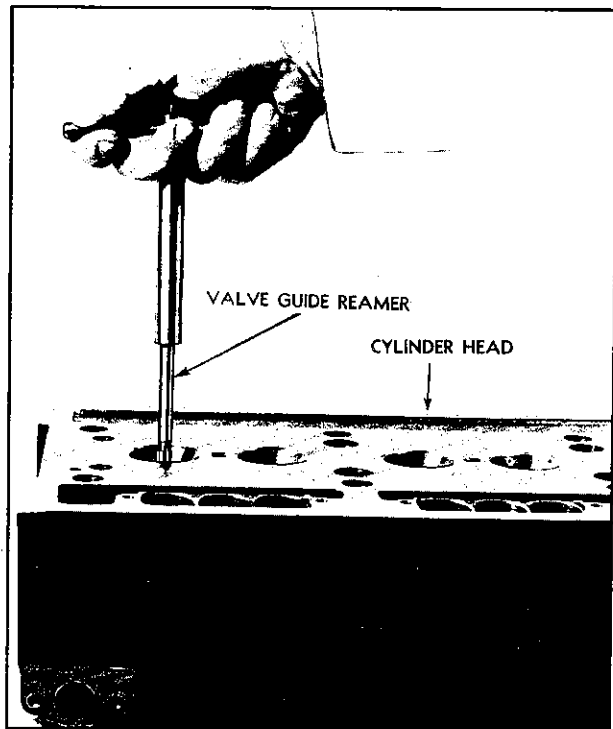

Fig. 6—Reaming Valve Guide.
**Reaming Valve Guides**—The valve guides must be reamed to size after they have been pressed into the cylinder head. This operation is performed as illustrated in Fig. 6 with the special roughing and finishing reamers, tools .341 and J-129-2.